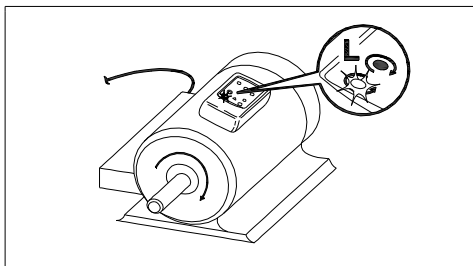

Figure 3. Motor Rotation
2. Position the Indicator on the motor so that it is parallel to the length of the motor shaft. The Indicator should be one inch or close to the motor. See Figure 3.